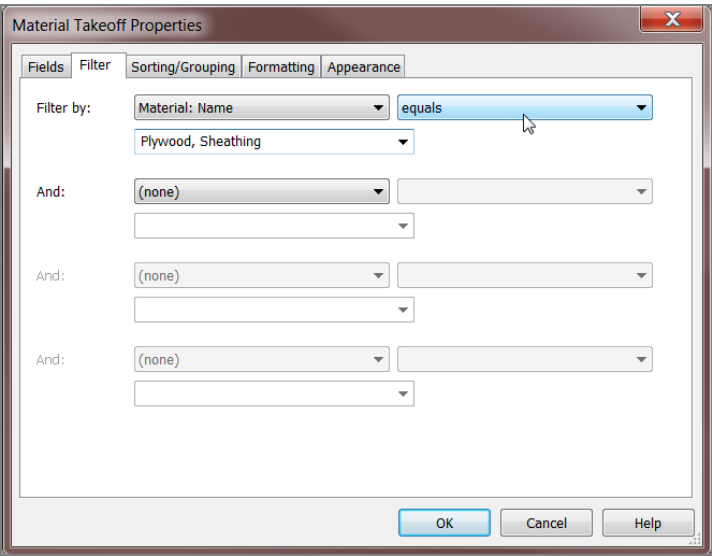

FIGURE 11.32: Filtering based on material
7. In the field below Material: Name, select Plywood, Sheathing (see Figure 11.32).